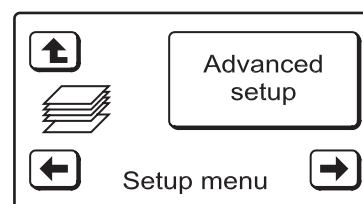

FIG. 75
2. Press the LEFT (←) button twice to display the screen shown in Figure 75.